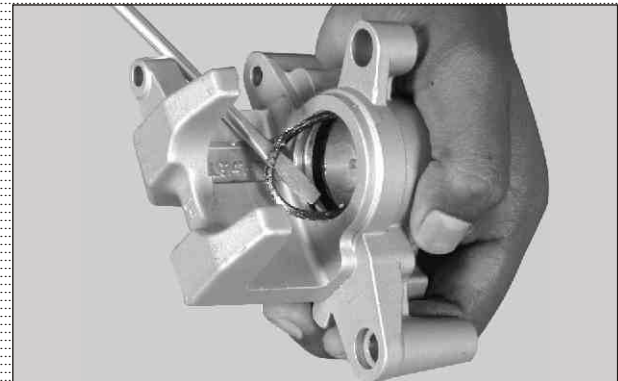

Fig. 6.105
- Remove dust seals 1 and 2 with a bent plastic / brass tool to avoid scratches on the caliper bore. (Fig. 6.105)